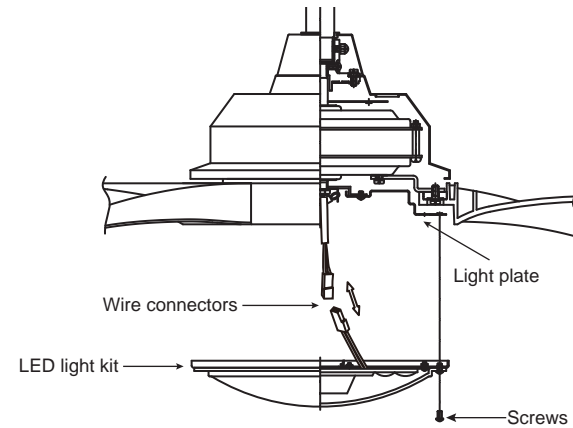

Fig. 17
Step 1. Loosen the two mounting screws on the inside of the LED light kit. (Fig.17)
Step 2. While holding the LED light kit under the fan motor, make the wire connections: (Fig. 17)
Step 3. Tuck the connections neatly into the light plate. Place the LED light kit close to the light plate, secure by tightening the two screws. (Fig.17)